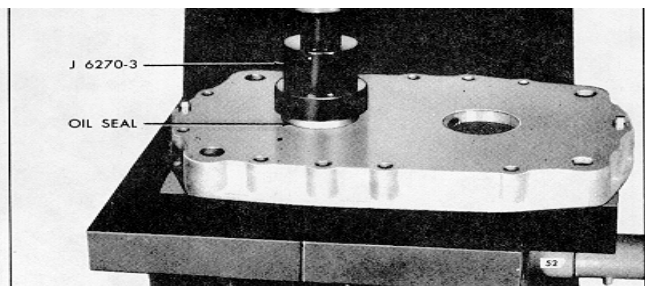

Fig. 14 - Installing Oil Seal (or Seal Ring
- a. Support the blower end plate, finished surface facing up, on wood blocks on the bed of an arbor press (Fig. 14).
c. Place the short end of oil seal remover and installer J 6270-3 iii the oil seal and under the ram of the press (Fig. 14). Then, press the oil seal into the end plate until the shoulder on the installer contacts the end plate.
Support one of the blower end plates, inner face up, on wood blocks on the bed of an arbor press as shown in Fig. 14.
Place the oil seal ring collar installer J 6270-4 on top of the seal ring collar and under the ram of the press in the same manner as shown in Fig. 14. Then, press the collar into the end plate until the shoulder on the installer contacts the end plate.